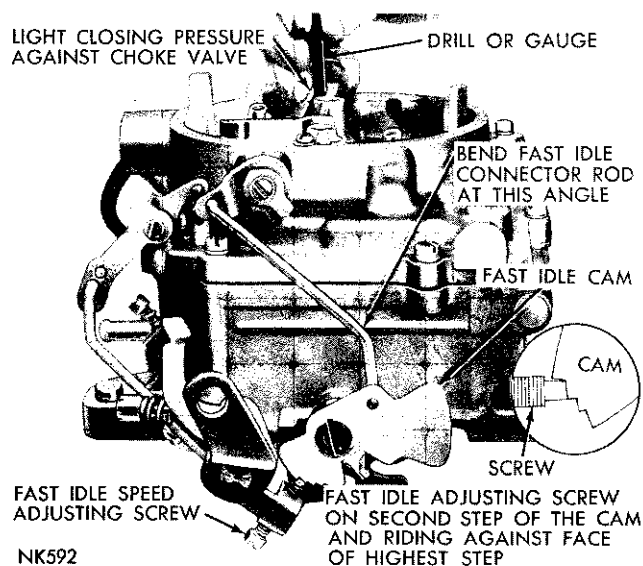

Fig. 13—Fast Idle Cam Position Adjustment
(1) With the fast idle speed adjusting screw contacting the step on the fast idle cam, shown in (Fig. 13), move the choke valve toward the closed position with light pressure. Insert a NO. 50 drill between the choke valve and the wall of the airhorn.
(2) An adjustment will be necessary if a slight drag is not obtained as the drill is being removed.
(3) If an adjustment is necessary, bend the fast idle connector rod at the angle, using Tool T109-213 until the correct valve opening has been obtained. Refer to (Fig. 13).